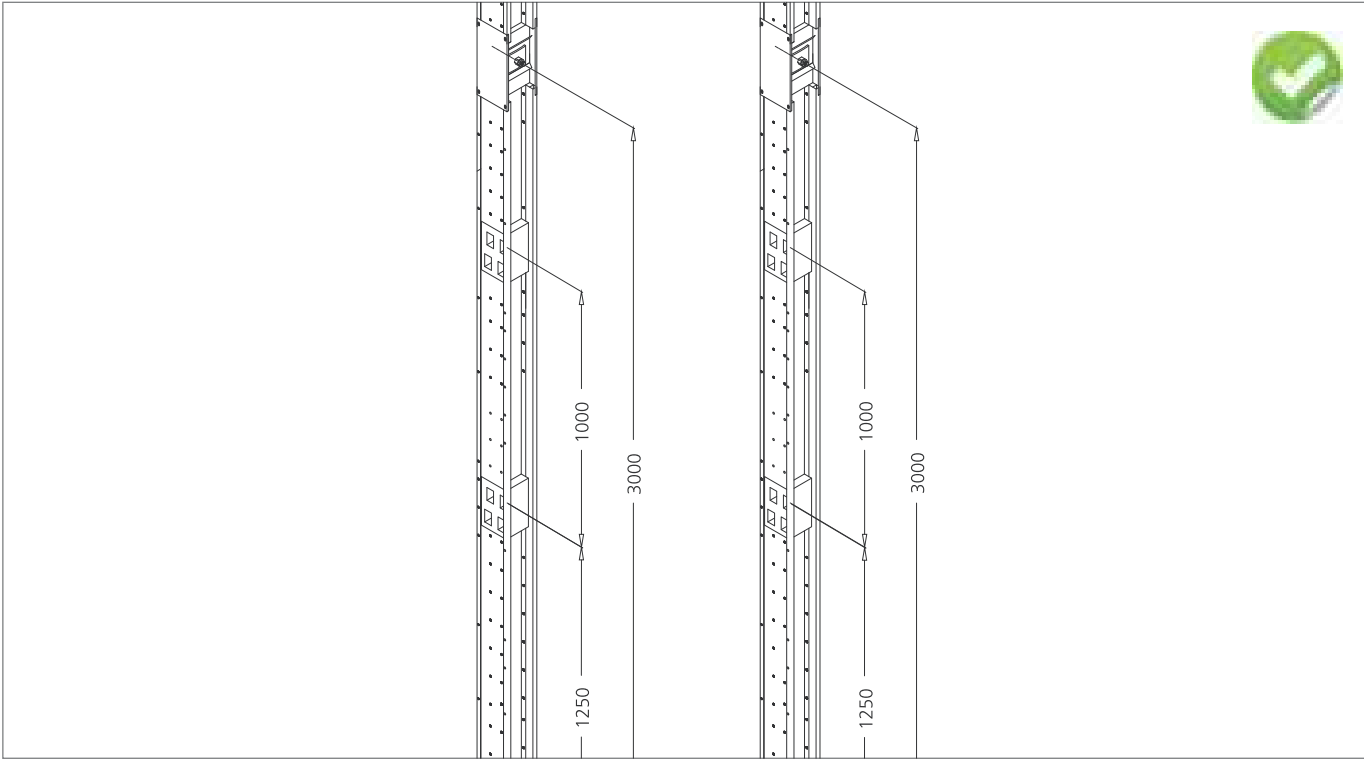

Fig 12 (Best practice)
- Fig.12 shows the best practice: merging the two varieties into a single variety.